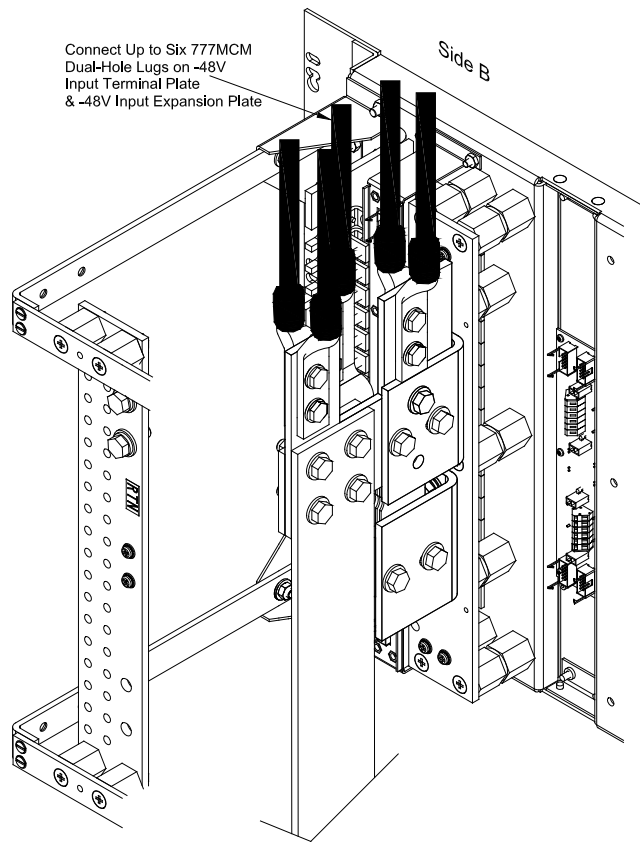

Figure 3 - Installing -48V Input Cables
6. You can connect up to two 777MCM cables/lugs to each of three -48V input sites. (Figure 3 shows two lugs on each arm of the U-shaped terminal plate of a BDFB / BDCBB and one on the expander plate.)
NOTE: DON'T "PIGGY BACK" (STACK) LUGS ON TOP OF EACH OTHER. When connecting two lugs, the terminal and expander plates must be "sandwiched" between the broad, flat bottoms of the lugs, as shown in Figure 3.